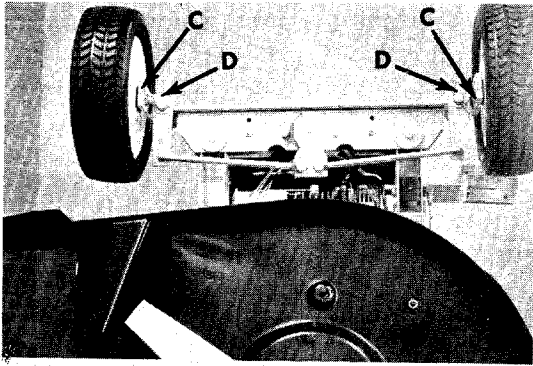

FIGURE 18. LUBRICATION
- Front Wheel Bearings.** Once a season, remove the front axle bolts and coat the axle with a multi-purpose automotive type grease and reassemble. See figure 18.
- King Pins.** Lubricate the king pins after every 25 hours of operation with SAE 30 oil. Wipe up excessive oil with a rag. See figure 18.